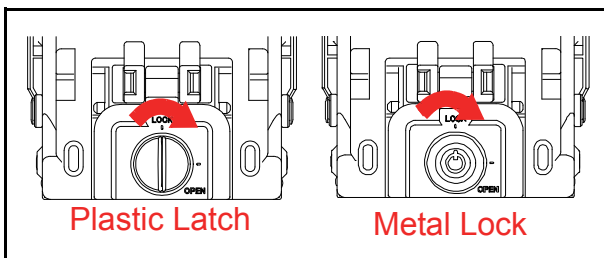

Figure 18 Retrieving Banknotes 2
2. Rotate the Plastic Latch or the Metal Lock clockwise until in the “OPEN” position and the lock releases (Figure 18).